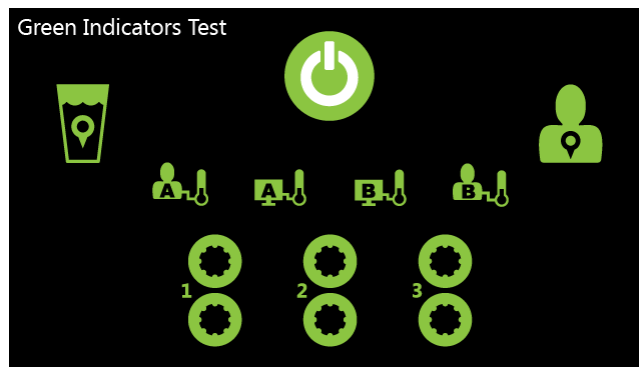
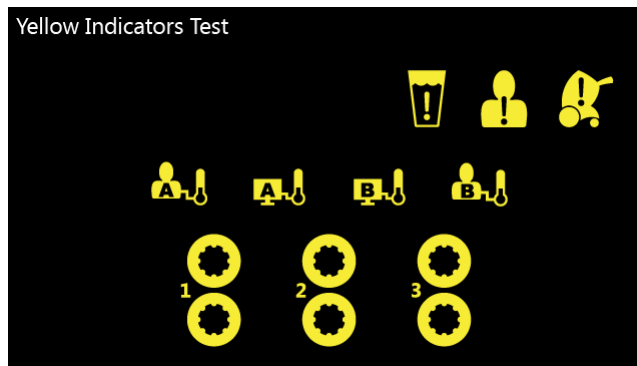
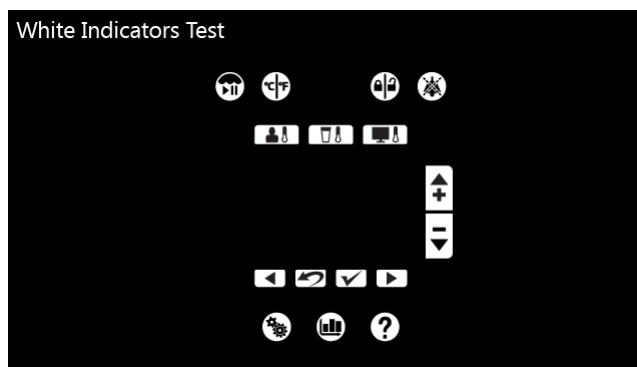

Figure 60: Green indicator test
Figure 61: Yellow indicator test
Figure 62: White indicator test
- b. Verify the green, yellow, and white indicators illuminate, mirroring the display. (See Figure 60 on page 78, Figure 61 on page 79, and Figure 62 on page 79).